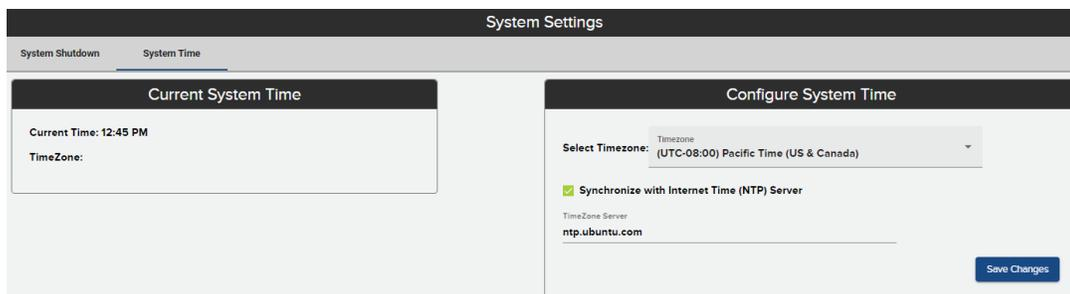

Figure 96: System Settings - System Time
2. From the Administration menu, click on **System Settings**, then **System Time**. The **System Time** window will open (Figure 96).